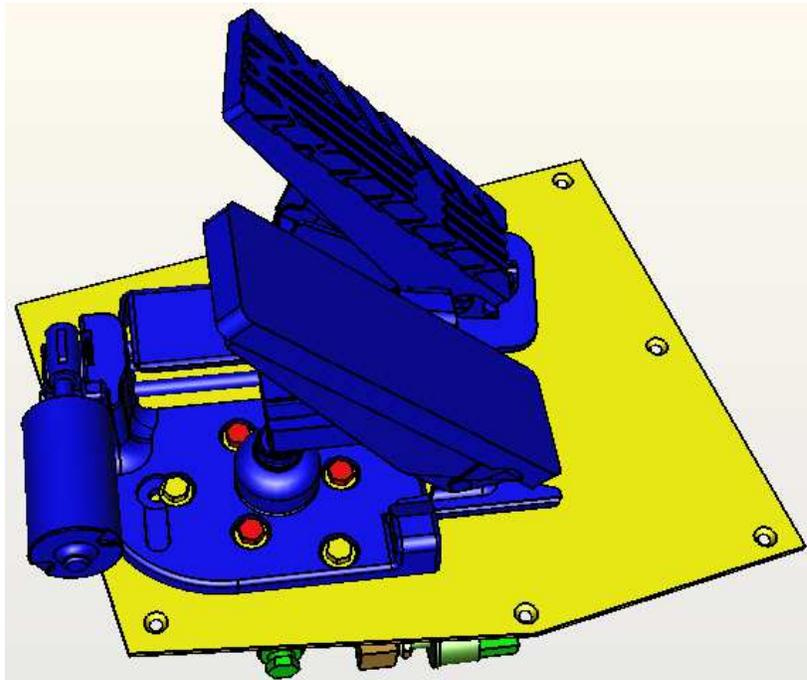

Figure 13: Install the Valve Assembly
31. Attach the valve assembly to the pedal assembly using the hardware previously removed in Step 16 (3 bolts, 3 washers), see Figure 13. Tighten the bolts.
🔧 **NOTE:** Place a washer between the pedal mounting hole and the bolt head, see Figure 13.